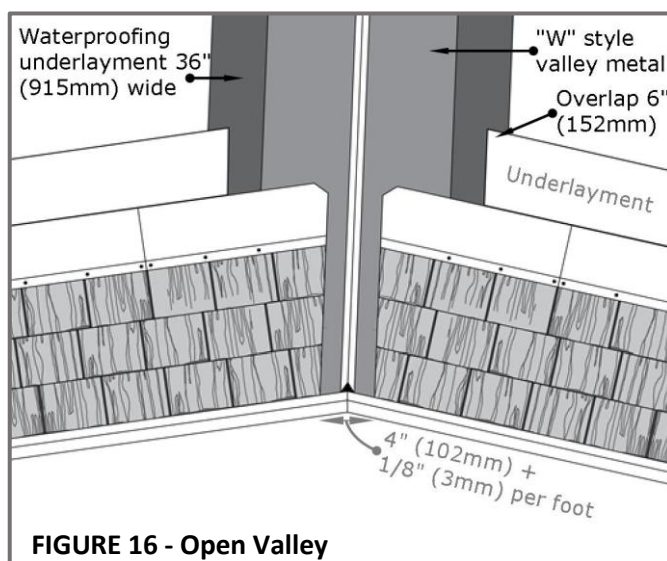

FIGURE 16 - Open Valley
- Trim shingles to the chalk line. See **Figure 16**.